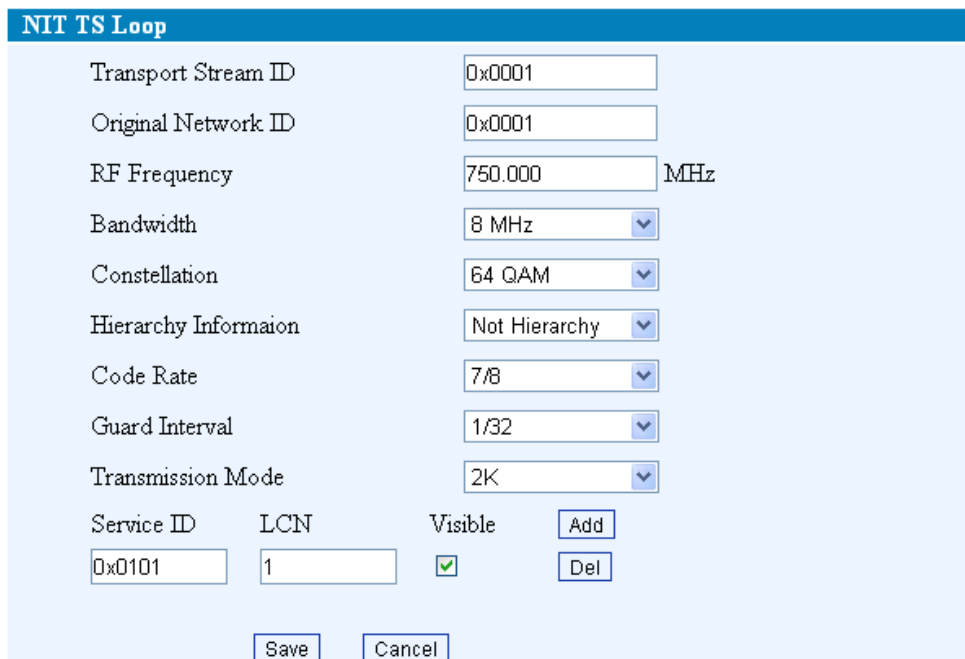

Figure-5
**Add** Click “Add” from this page, it will display the screen as Figure-5 where it requires to add Service ID and configure other parameters for the programs.